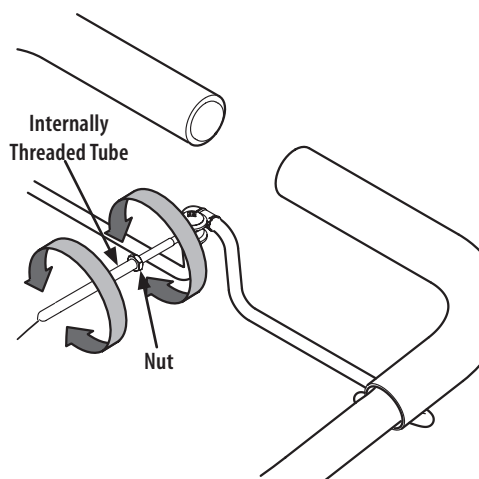

Figure 10
4. If the belt turns without the bail engaged, adjust it by un-threading the internally threaded tube at the end of the cable a few turns clockwise — when standing in the operator's position — and then retighten the nut against the tube. See Figure 10.